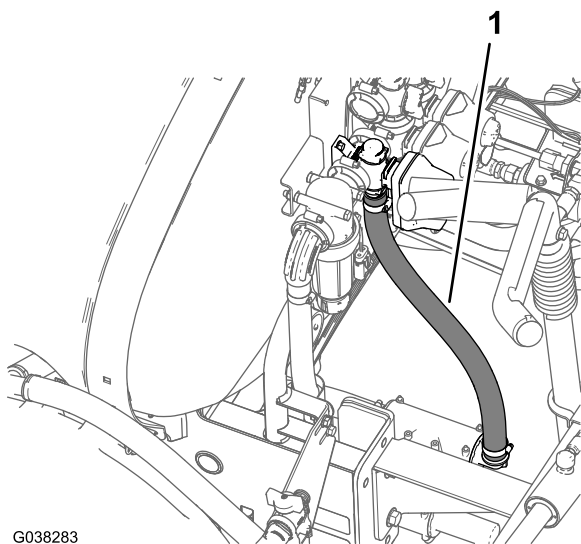

Figure 65
2. Route the return hose down and toward the T-fitting located inboard of the pressure-relief valve as shown in Figure 65.